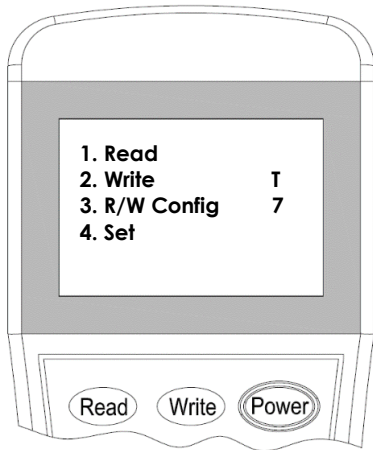

Figure 7
3. Switch-on the programmer, then press button **"4"** to enter to Setting mode (Figure 7). The programmer will display the actual configuration after few seconds.